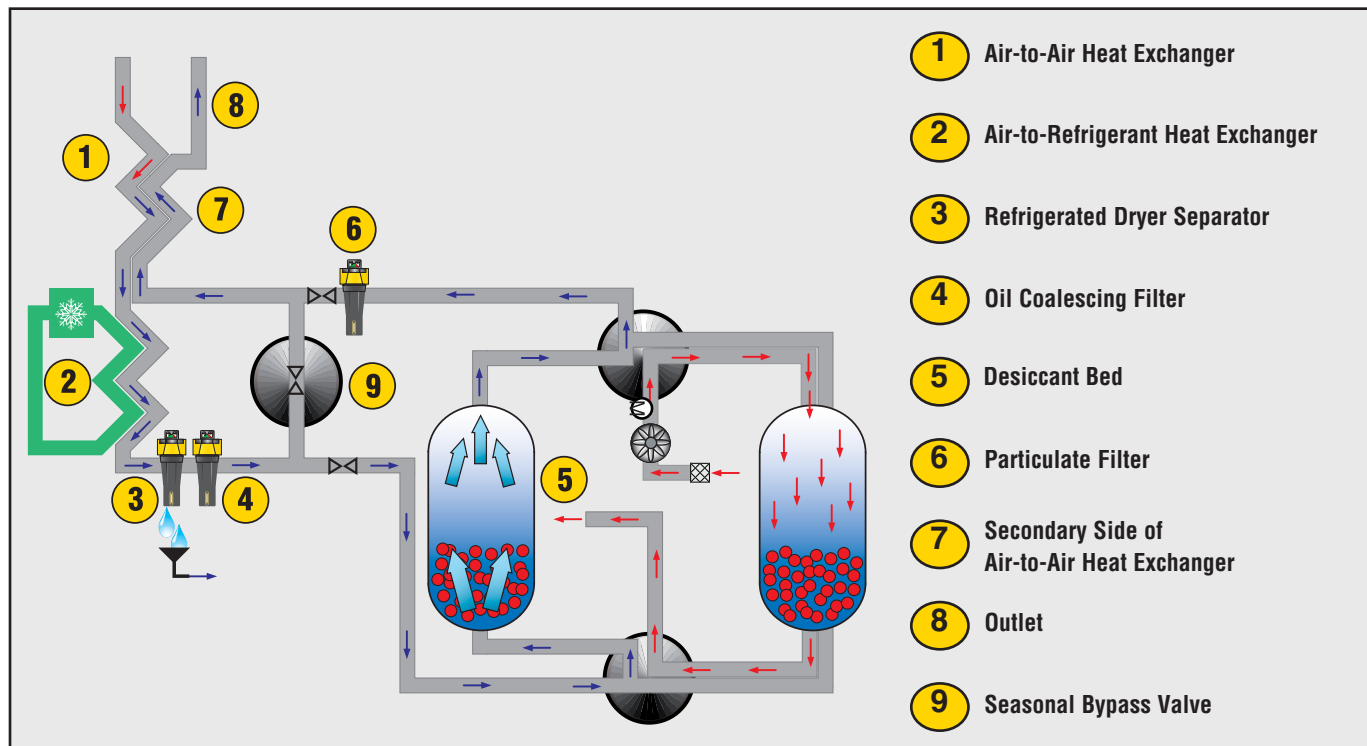

FIGURE 2: Hybrid Refrigerated/Desiccant Compressed Air Dryer operation.
As shown in Figure 2 on the following page, compressed air that has been through a compressor's aftercooler (typically about 100°F after cooling) enters the refrigerated dryer and passes through the primary side of the air-to-air heat exchanger (A/A HX) ① where its temperature is reduced to about 70°F . This change in temperature condenses a significant amount of the water vapor that entered the A/A HX. Some oil vapor may also be condensed in the A/A HX.